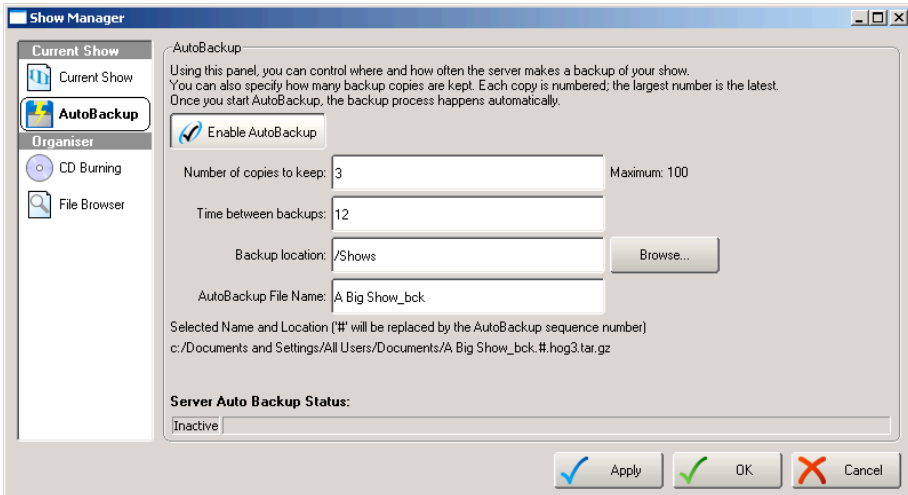

Figure 13.20. The Auto Backup pane of the Show Manager window
1. Setup → Shows → Auto Backup : see *Figure 13.20, "The Auto Backup pane of the Show Manager window"*.